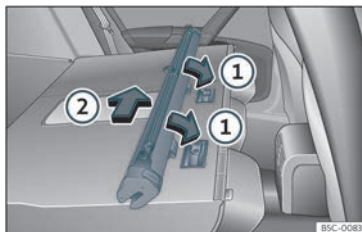

Fig. 133 Assembling the net partition in the rear seat backrests.
- Place the net casing in the rail slots in the direction of the arrows»» **Fig. 133** ①.
- Push the casing towards the left side of the vehicle in the direction of arrow»» **Fig. 133** ② and as far as it will go.
- Pull the net casing out approximately 5 cm in the opposite direction to the arrow >> Fig. 133 ②.
- Remove the casing from the rails by pulling in the opposite direction to the arrows >> Fig. 133 ①.